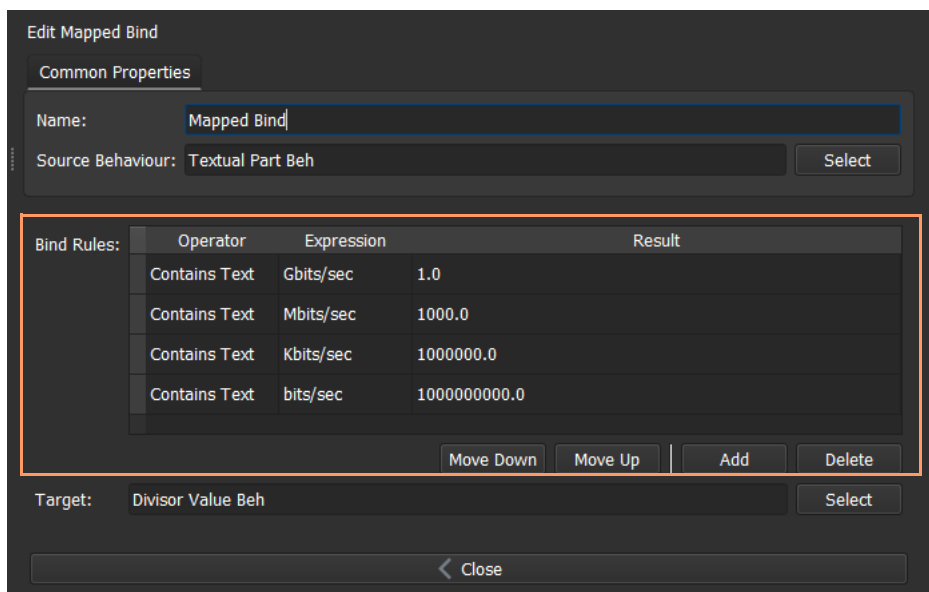

Fig. 7-12: Mapped Binding Settings, Bind Rules Shown
- Set Bind Rules as shown in Figure 7-12.